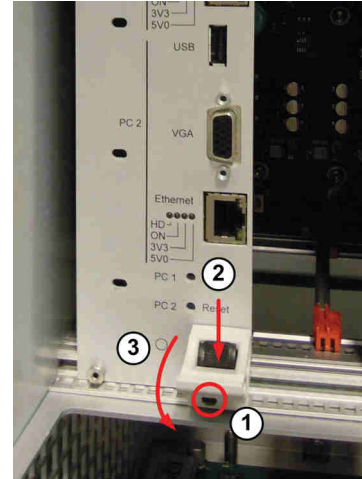

Fig. 10.23 Handle
- 3 Using tools 1/4 or tool 9. loosen the screws in the upper and lower handle, marked with 1 in Fig. 10.23 \(p. 144\) - these two screws are fixing the module to the frame.
Release the two handles (upper handle and lower handle) by pushing the black button into the handle - marked as "2" in Fig. 10.23 \(p. 144\). While doing this simultaneously on the two handles, move the upper handle upwards and the lower handle downwards ("3"). This will pull the module out of the connector.